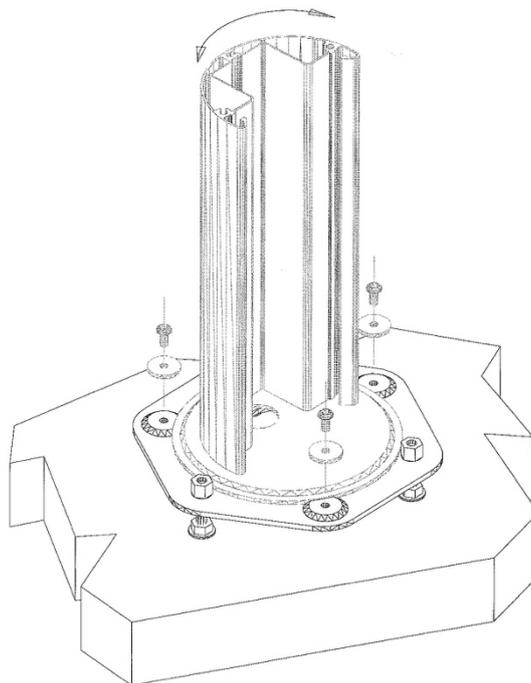

Fig.8
7. Position the mounting pillar on the socket and turn it to the required angle. Fix the mounting pillar using the flat washers and the screws (Fig. 8).